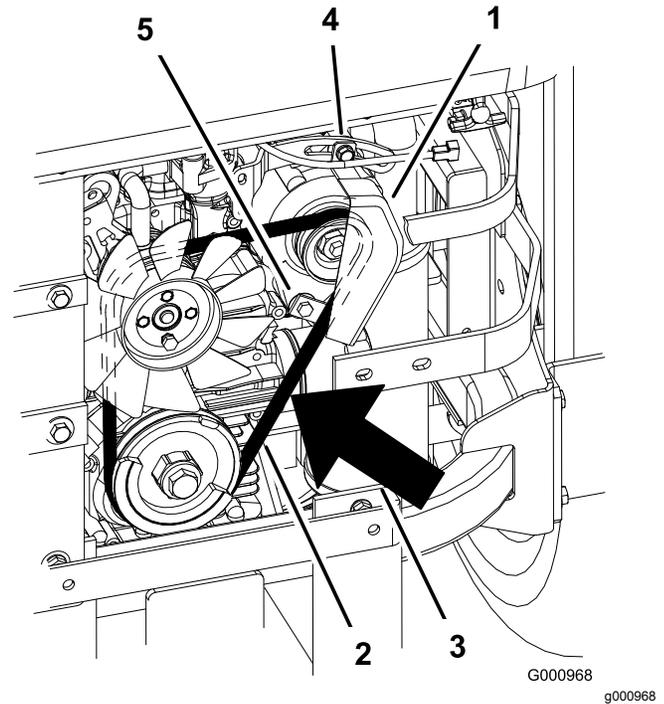

Figure 74
2. Adjust the alternator to the outside until there is 7 to 9 mm (1/4 to 11/32 inch) deflection in the belt between the engine and the alternator pulleys with 10 kg (22.1 lb) of force (Figure 74).
5. If the deflection is correct, tighten the bottom and upper bolt (Figure 74).